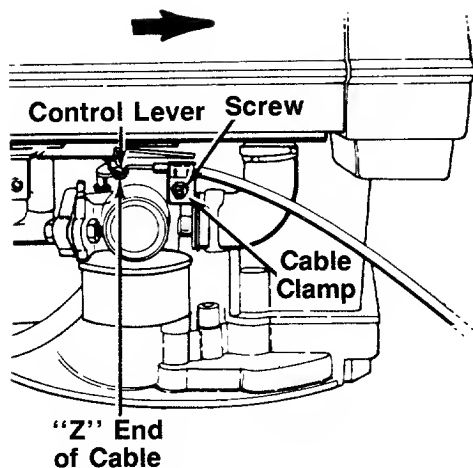

FIGURE 17B.—Models 433R and 435R
1. Loosen (do not remove) the screw on the cable clamp so that the cable will move freely under the clamp. See figure 17B.